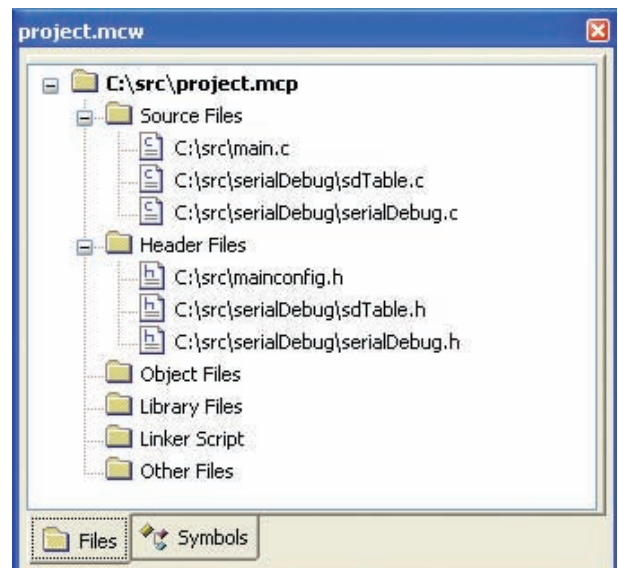

Fig.1. Source code layout
The source code organisation can be seen in Fig.1. Including the Microchip .mcw and .mcp project files, only eight small files are required for implementation. Your own source code is placed in **main.c**, and you can add further project files as you see fit. The serial debugging support code has been isolated in its own subdirectory as it is completely independent of your project code.
*Fig. 1. Open construction capacitors like the one on the left are far less hardy than the cased type on the right. Any capacitors that lack a proper casing should be treated very carefully*
Modern PCM capacitors are mostly much tougher than the early types, which often lacked a proper casing to give overall strength to the component. An old PCM capacitor is shown in Fig. 1 (left), and its open construction is readily apparent. Fig. 1 (right) shows a modern equivalent, which has a fairly tough plastic case that protects the component and holds the leads firmly in place.